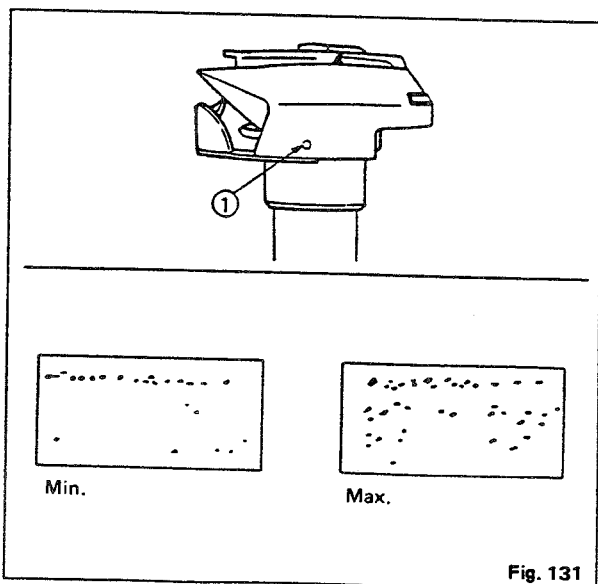

Fig. 131
The hooks are automatically lubricated. Adjust the amount of oil lubricated by screw (1) located outside of the hooks. Turning the screw to the clockwise will reduce and to the counterclockwise will increase the amount of oil. Hold a piece of paper about 1 cm away from the hook and operate the machine for about 10 seconds, and the splash of oil will gather on the paper as shown in Fig. 131 if the adequate amount of oil is lubricated to the hooks.
(2) Needles